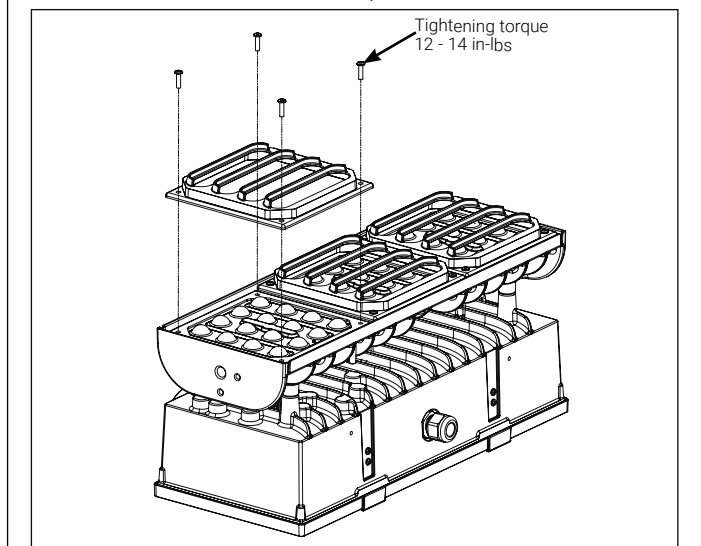

Figure 16.
Baffle or House Side Shield [HSS] (Figure 16)
1. Loosen and remove the existing (4) 8-32 screws on the face of the fixture (Fig 16) and retain for future reference.
3. Align baffle on top of lens clips matching the (4) existing holes.
4. Use the existing (4) 8-32 screws to secure visor.